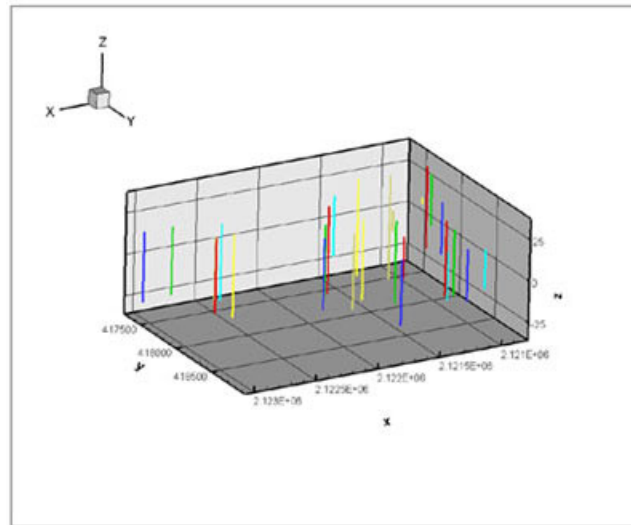

Figure B-10. The Excel well data plotted in Tecplot 360.
4. Switch to 3D Cartesian plot mode to see the location and measurement depths of the well samples. The resulting plot is shown in Figure B-10.